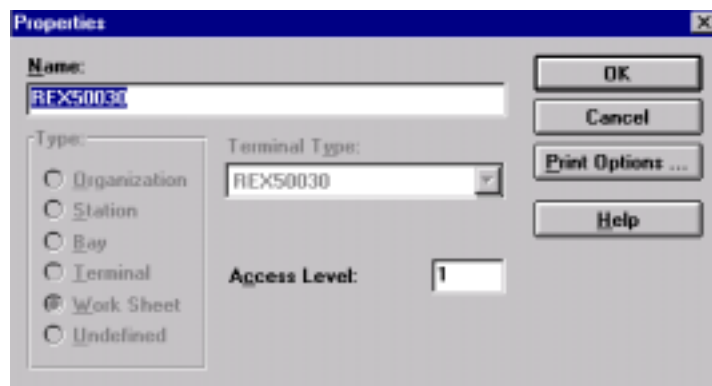

Fig. 43 The Properties dialog box, which is used to assign a page layout.
- 3 Select 'Print Options', and the Print Options dialog box appears, see Fig. 43.